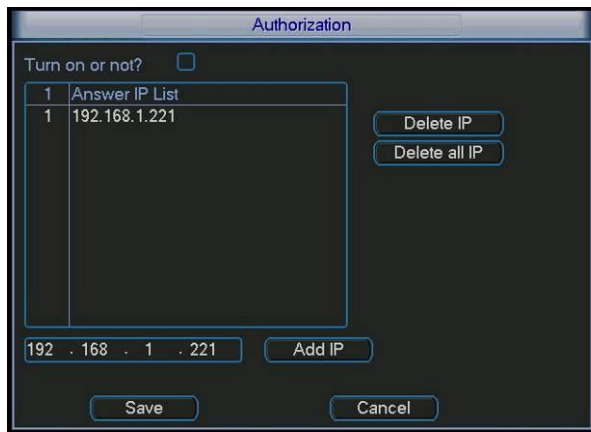

Figure 5-7
- Authorization: Click Authorisation button then highlight icon  Turn on or not? to enable IP authentication function. When you enable this function, only the IPs in the list can login to this DVR. See Figure 5-7.